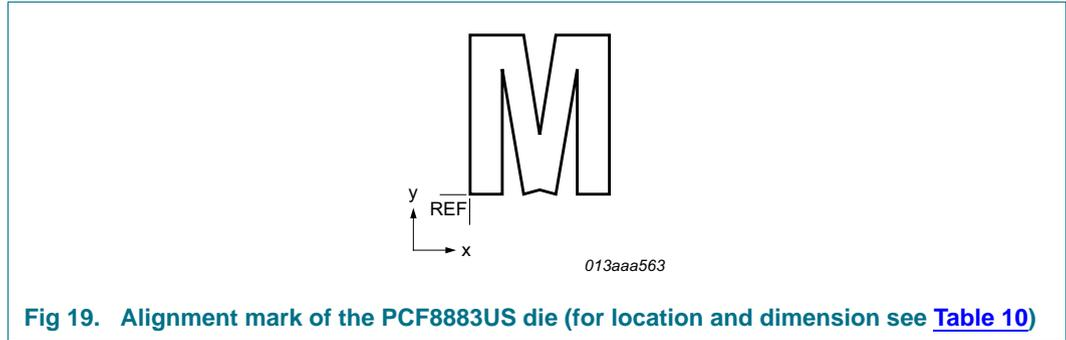

Fig 19. Alignment mark of the PCF8883US die (for location and dimension see Table 10)
- [1] The x/y coordinates of the alignment mark location represent the position of the REF point (see Figure 19) with respect to the center (x/y = 0) of the chip.
- [2] The x/y values of the dimensions represent the extensions of the alignment mark in direction of the coordinate axis (see Figure 19).